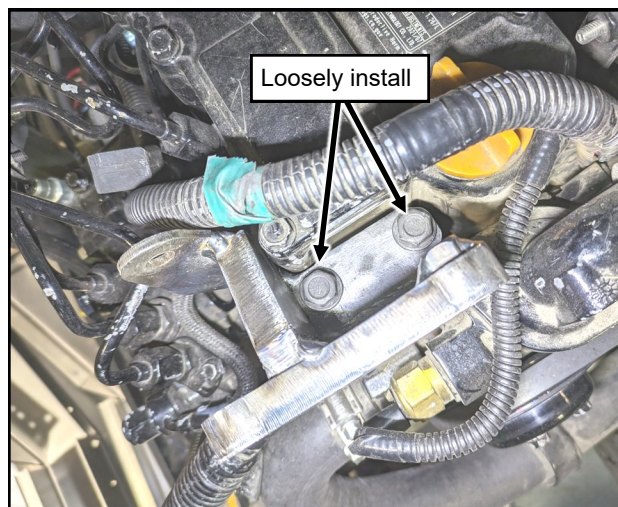

Fig. 1.39 (Loosely install M8x1.25 x 50 screws)
- 1.39 With supplied red Loctite, loosely thread in two M8x1.25 x 50 hex screws into the top compressor bracket holes shown in Figure 1.39.